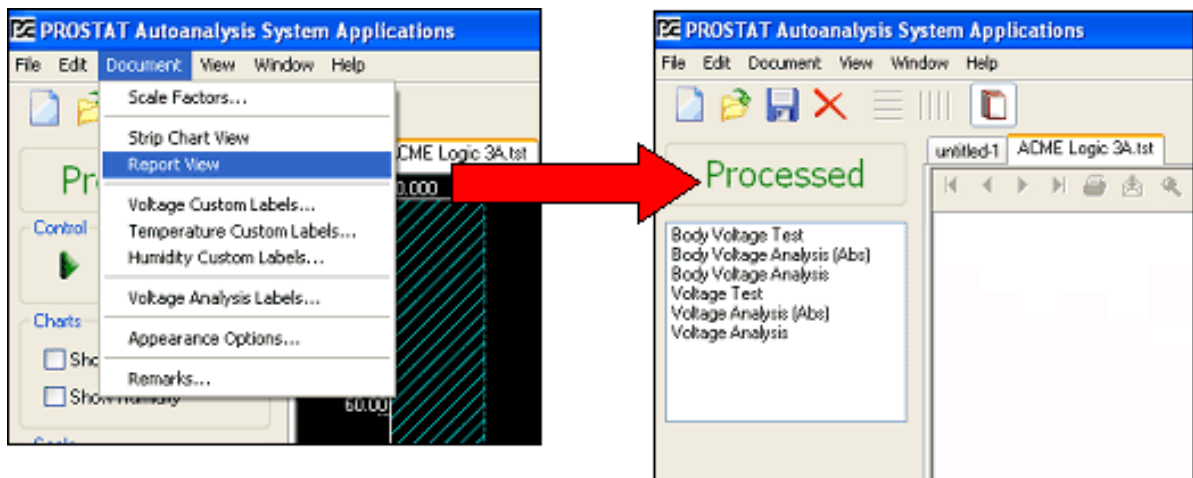

Figure 28: Generating Reports using Document Drop Down Menu
8. Once the basic calculations are completed a detailed report may be generated. From the **Document** drop down menu (Figure 28) select **Report View**